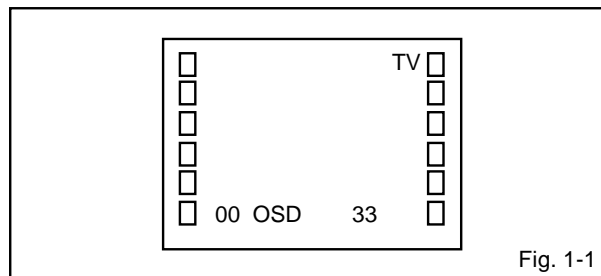

Fig. 1-1
1. In the condition of NO indication on the screen. Press the VOL. DOWN button on the set and the Channel button (9) on the remote control for more than 2 seconds to appear the adjustment mode on the screen as shown in Fig. 1-1.
3. Activate the adjustment mode display of Fig. 1-1 and press the channel button (01) on the remote control to select "CUT OFF".
4. Activate the adjustment mode display of Fig. 1-1 and press the channel button (12) on the remote control to select "R. BIAS".
3. Activate the adjustment mode display of Fig. 1-1 and press the channel button (06) on the remote control to select "H. SIZE".
3. Activate the adjustment mode display of Fig. 1-1 and press the channel button (07) on the remote control to select "V. SIZE".
3. Activate the adjustment mode display of Fig. 1-1 and press the channel button (08) on the remote control to select "V. LINERITY".
3. Activate the adjustment mode display of Fig. 1-1 and press the channel button (34) on the remote control to select "TRAPEZIUM".
3. Activate the adjustment mode display of Fig. 1-1 and press the channel button (03) on the remote control to select "H.PHASE".
2. Activate the adjustment mode display of Fig. 1-1 and press the channel button (35) on the remote control to select "LEVEL".
3. Activate the adjustment mode display of Fig. 1-1 and press the channel button (36) on the remote control to select "SEPARATION1".
4. Activate the adjustment mode display of Fig. 1-1 and press the channel button (36) on the remote control to select "SEPARATION1".
8. Activate the adjustment mode display of Fig. 1-1 and press the channel button (37) on the remote control to select "SEPARATION2".